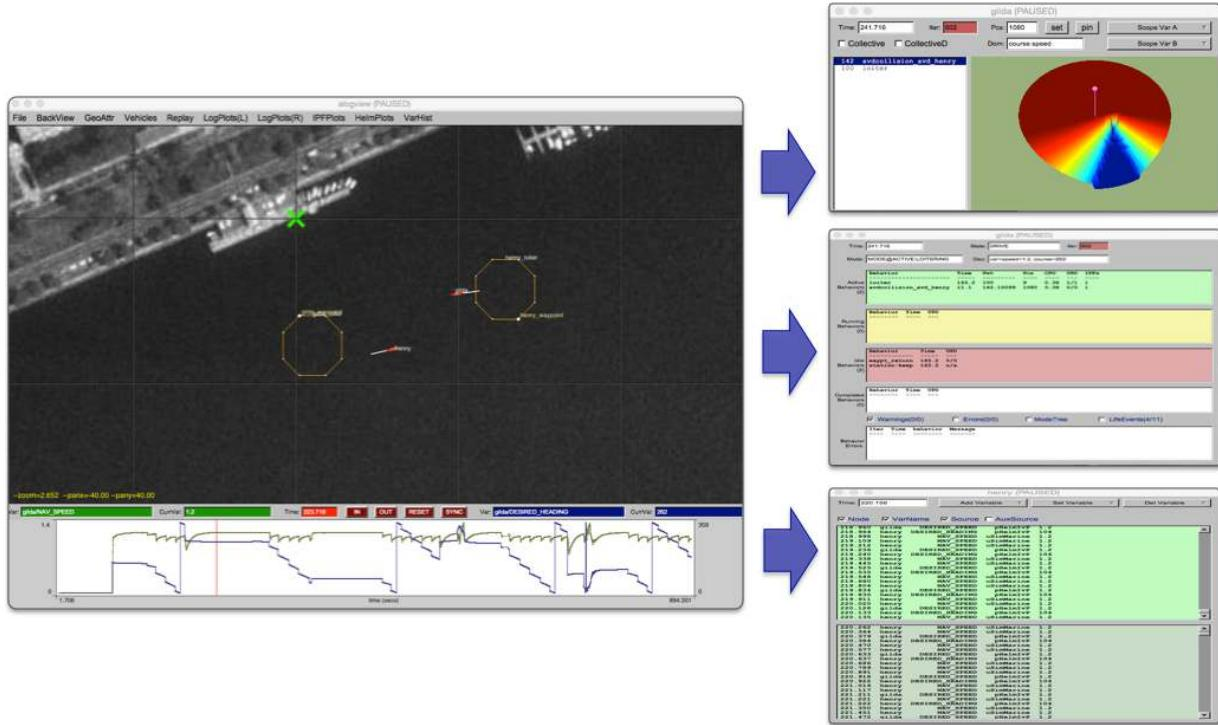

Figure 220: **The `alogview` tool:** used for post-mission rendering of `alog` files from one or more vehicles and stepping op-area and time.
- `alogview`: A graphical tool for rendering multiple vehicle trajectories, time-series plots for any logged numerical data, objective functions produced from helm behaviors, helm summary reports for any iteration in any vehicle, and interleaved variable histories for any logged MOOS variable. Figure 220 shows the primary data windows on the left and a few optional pop-up windows on the right.